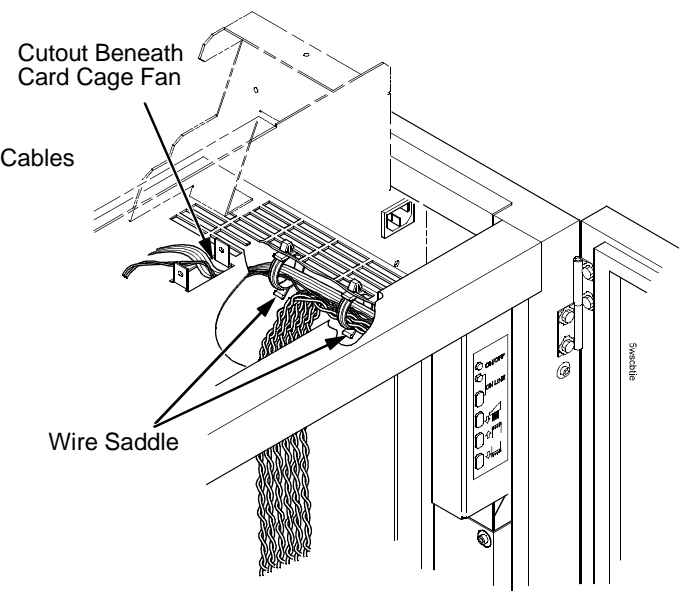

Figure 95. This figure shows how to bundle and route the stacker cables beneath the card cage and behind the operator panel.
37. Bundle the stacker operator panel cables in the wire saddles located under the card cage. Tie wrap the cables so they do not catch in the stacker mechanism as it moves up and down. Route the stacker rail and frame cables so they move without snagging as the elevator assembly moves up and down. (Figure 95.)